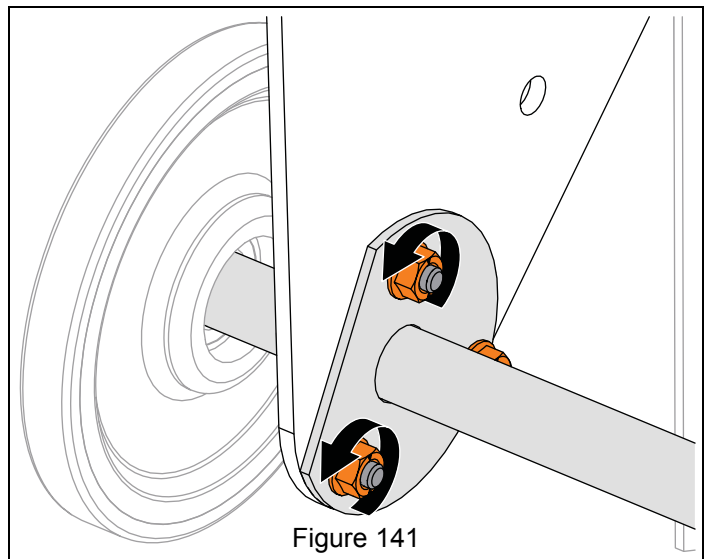

Figure 141
9. Loosen, but DO NOT remove hardware securing axle mount plates to carriage side plates. See Figure 141.